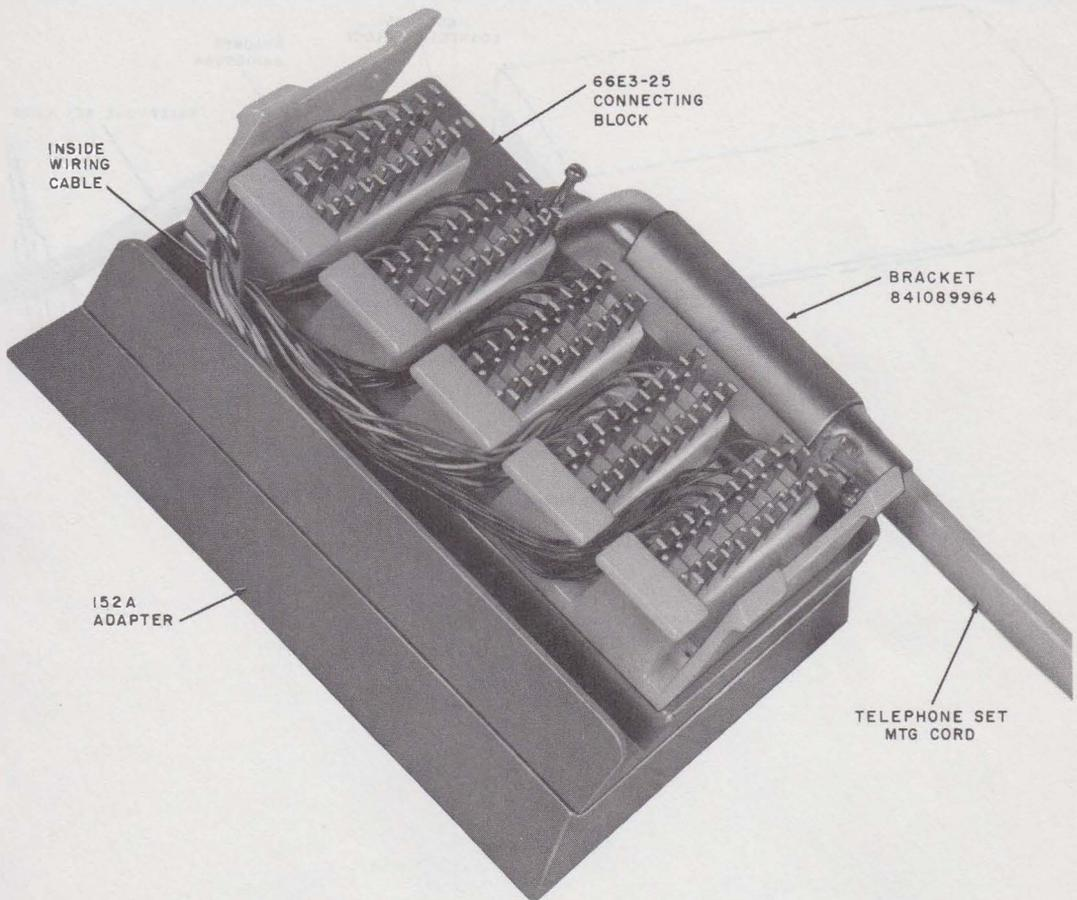

Fig. 3—66E3-25 Connecting Block Installed on 152A Mounting Adapter
3.02 Install the 152A adapter on electrical outlet box or overfloor duct and mount the 66E3-25 connecting block to the adapter, using the mounting hardware provided (Fig. 3). Terminate the cable conductors and install the snap-on cover.